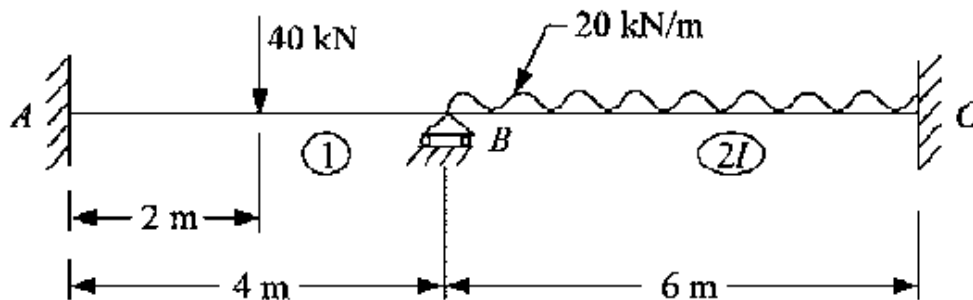

Figure Q1
- a) Analyse the two span continuous beam shown in **Figure Q1** by slope deflection method and draw the bending moment and shear force diagrams. Young's modulus is the same throughout.